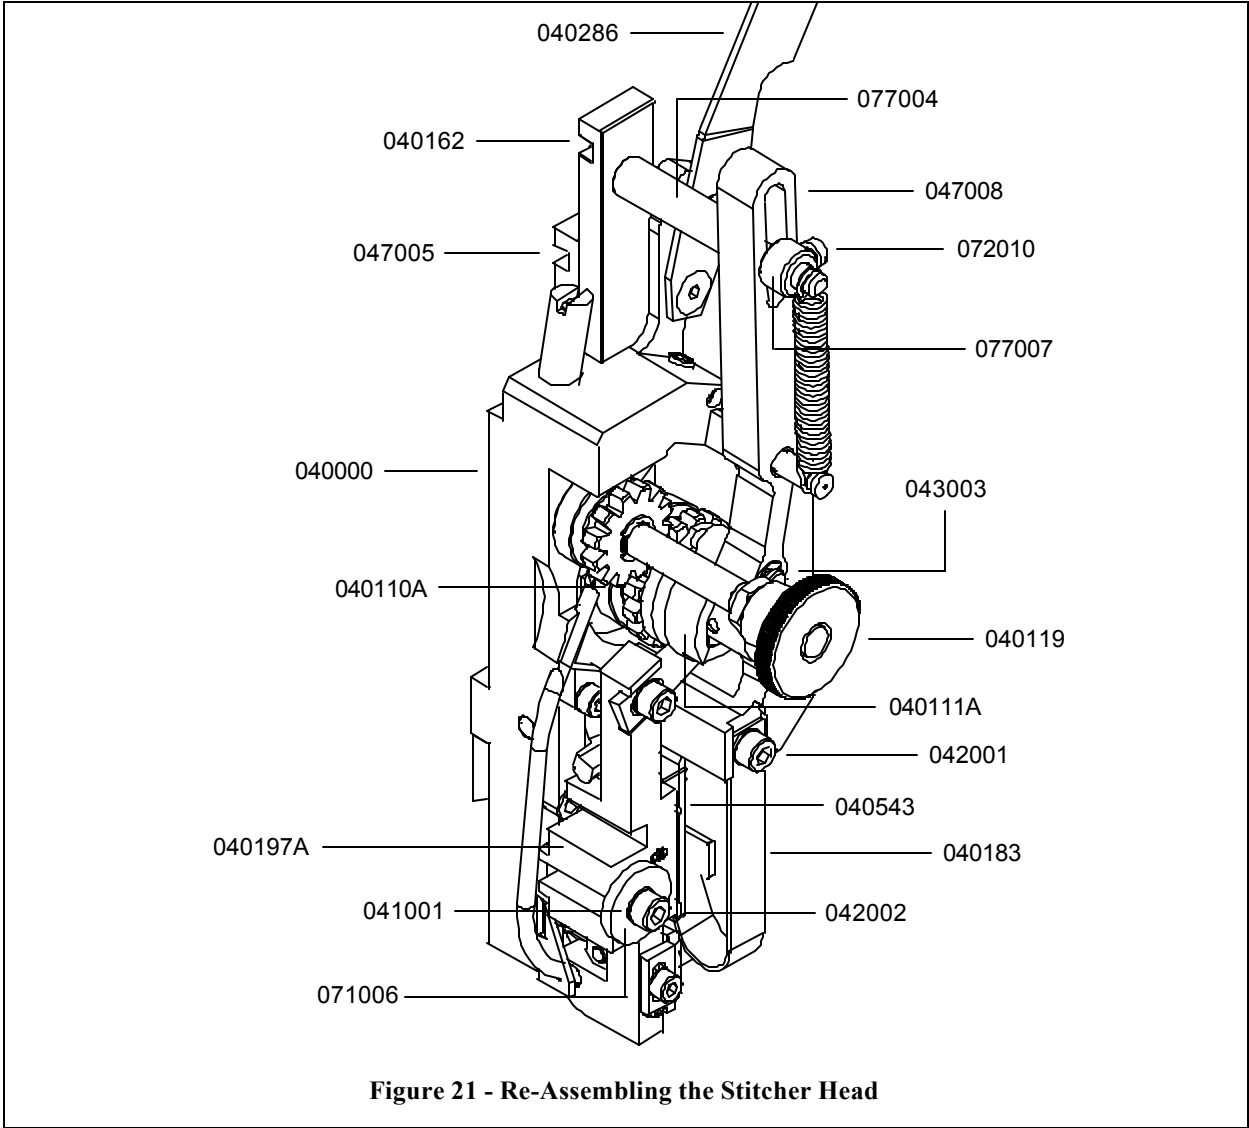

Figure 21 - Re-Assembling the Stitcher Head
### Re-assembling the Stitcher Head (Figure 21)
1. Slip the Feed Gear Assembly over the Feed Gear Shaft (040114). Make sure it is pressed flush against the Bonnet (040000). The Pin (043003) on the Feed Gear Pinion Assembly (040111A) should be positioned just right of the Feed Release Handle (040119). (See **figure 21**)